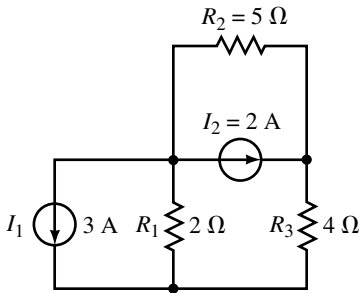

FIGURE 8-88
33. Write the nodal equations for the circuit of Figure 8-88 and solve for the nodal voltages.